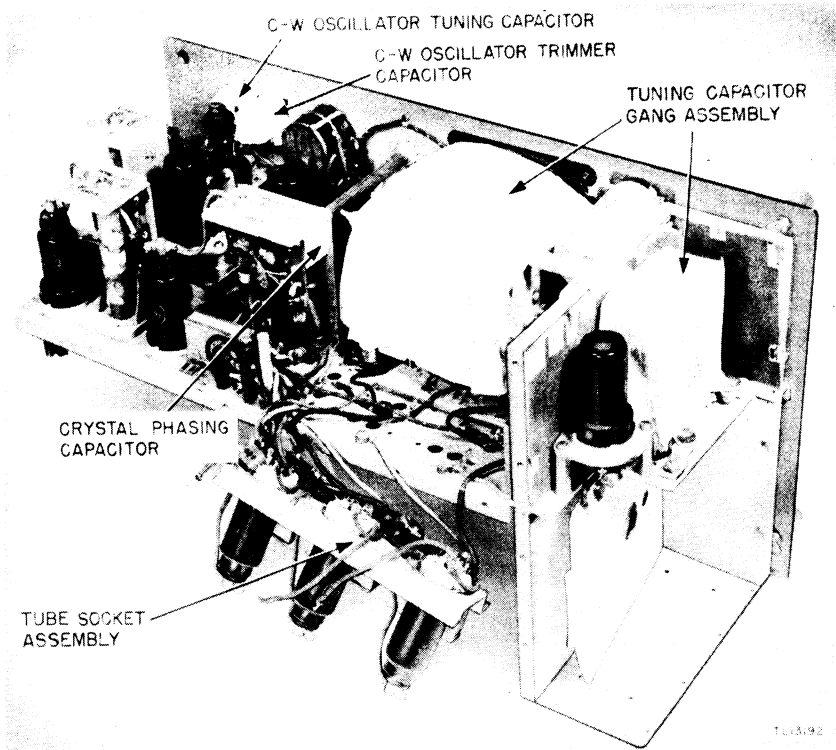

Figure 14. Up rear view of receiver chassis masked for moistureproofing and fungiproofing.
(3) Remove the first r-f, second r-f, detector alignment screw shields, and the r-f wiring, first detector transformer, first i-f transformer, second i-f transformer, c-w oscillator, and r-f oscillator shields.
(4) Disengage the r-f tube socket assembly from the chassis and allow the assembly to hang freely on wiring. (See fig. 14.)
- (5) Remove the power plug shield.
- (6) Set BAND-CHANGE switch to band A, loosen setscrew, and remove the knob.
- (7) Remove setscrew in drive gear of band switching assembly and pull out shaft which interconnects switch sections.
- (8) Unsolder the 20 leads interconnecting the first r-f, second r-f, and first detector sections. Tag each lead so that it can be replaced properly.
- (9) Remove the first r-f, second r-f, and first detector sections and remove the cover plates from each section.
- (10) Unsolder the four leads from the r-f oscillator section and tag each lead respectively.
- (11) Remove the r-f oscillator section and remove the cover plate.
c. DISASSEMBLY OF RADIO RECEIVERS BC-342-(\*) AND BC-344-(\*). (1) Loosen the panel locks holding the receiver chassis to case, and remove chassis.
e. **MASKING.** Cover the following components with masking tape as shown in figures 14, 15, and 16.
(1) C-w oscillator tuning and c-w oscillator trimmer capacitors. (See fig. 14.)
(2) Crystal phasing capacitor. (See fig. 14.)
(3) Tuning capacitor gang assembly. (See fig. 14.)